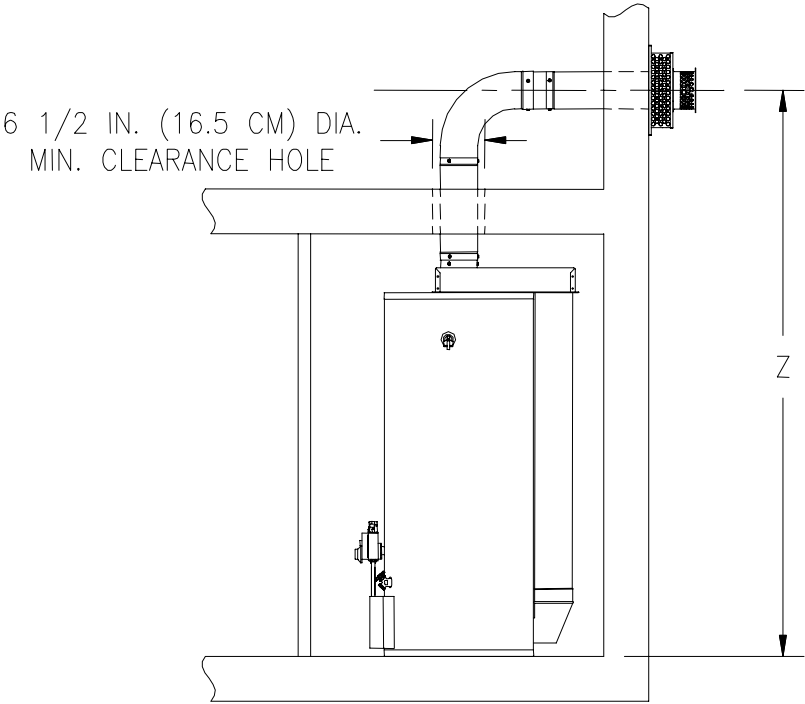

Figure 2
1. If applicable, cut a 6-1/2 inch (16.5 cm) diameter minimum clearance hole in the ceiling where the telescopic vent-air intake tube(s) will pass through. (See Figure 2).